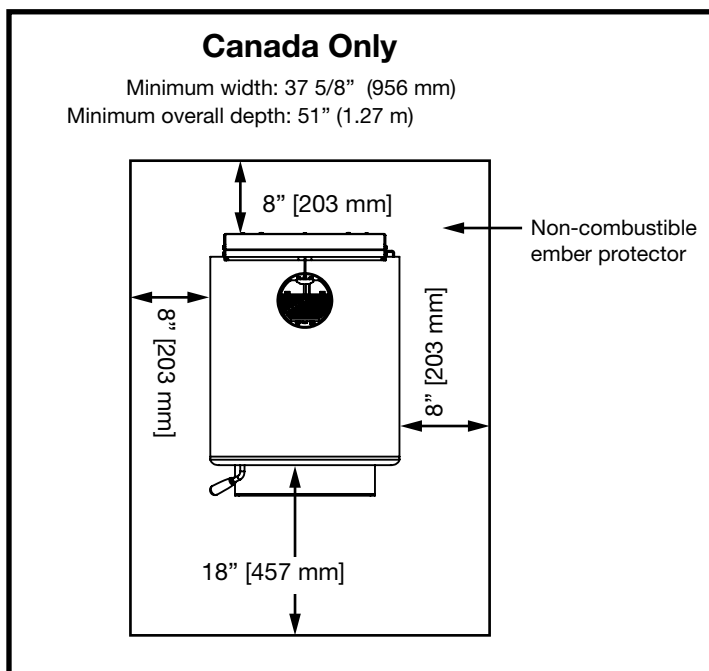
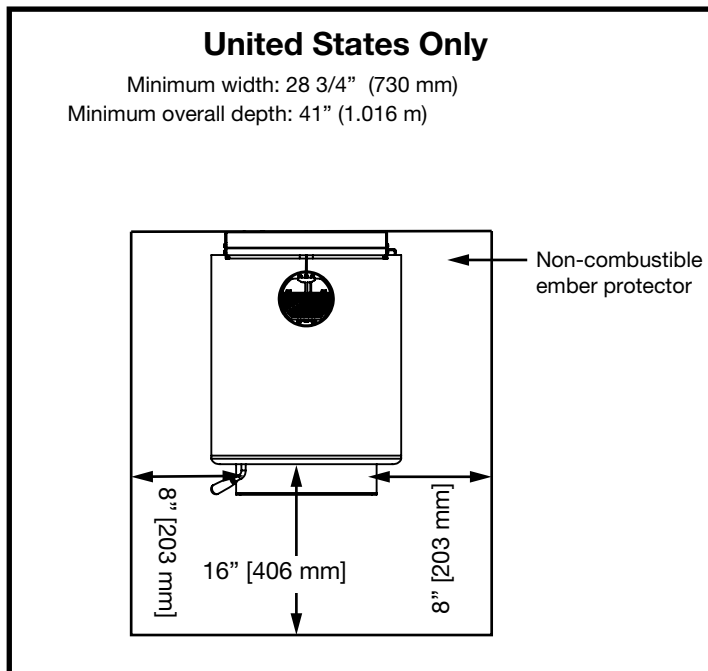

Figure 10: TN25C Floor protector Canada.
Figure 11: TN25C Floor protector U.S..
In Canada: 18" (457 mm) from the loading door on the firing side and 8" (203 mm) from the sides. See Figure 10, below.
In USA: 16" (406 mm) to the front of the firebox and 8" (203 mm) from the sides of the fuel loading door opening. See Figure 11, below. This protection is also required under a horizontal chimney connector and 2" (51 mm) beyond each side of it.
1. Position stove and floor protection (with hole for combustion air if required) in accordance with the clearances as stated on the label and in Figure 10 on page 15 (Canada) and Figure 11 on page 15 (U.S.A.).